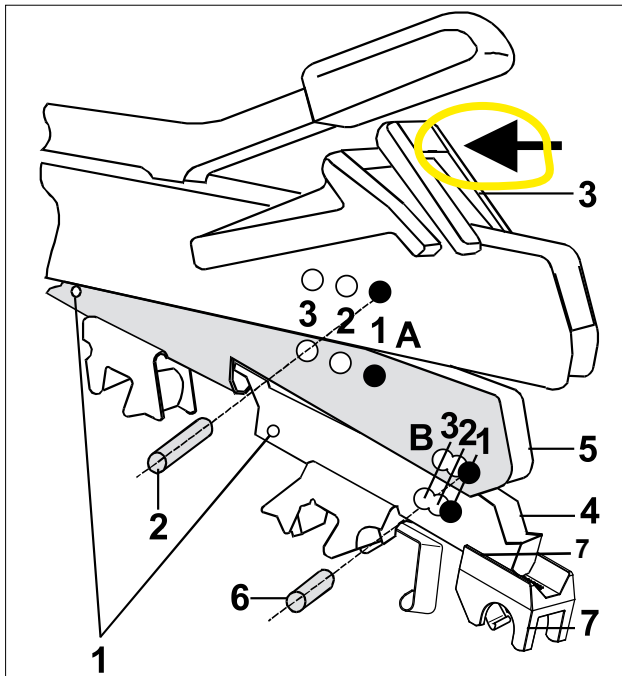
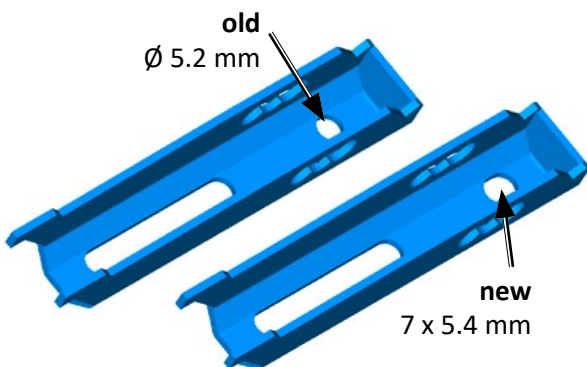
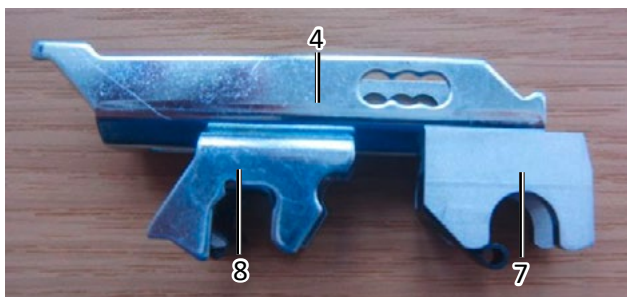
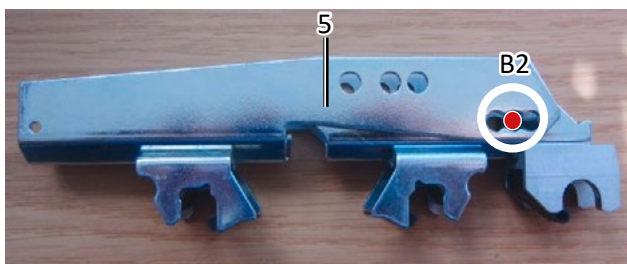

Fig. 1 - Basic setting with EliTop Classic
Fig. 2
Fig. 4
Fig. 5
- Push the clearer roller holder (3) back with the thumb.
- Push out the pin (2) from position A1 and remove the distributor (5) pulling it downwards.
- Push out the pin (6) from position B1 and remove the distributor (4) pulling it downwards.
- Replace the old distributor by the new distributor (10844310) with long hole (Fig. 2) and fix the existing bearing saddle for the cradle roller (8, Fig. 4) with the existing screw. Then fix the take-up 10954642 for the delivery roller of the EliTop (7, Figs. 1 and 4) with the existing screw.
- Push the front distributor (4, Fig. 4) into the rear distributor (5, Fig. 5).
- Insert the pin in the correct position **B2** (Fig. 5).